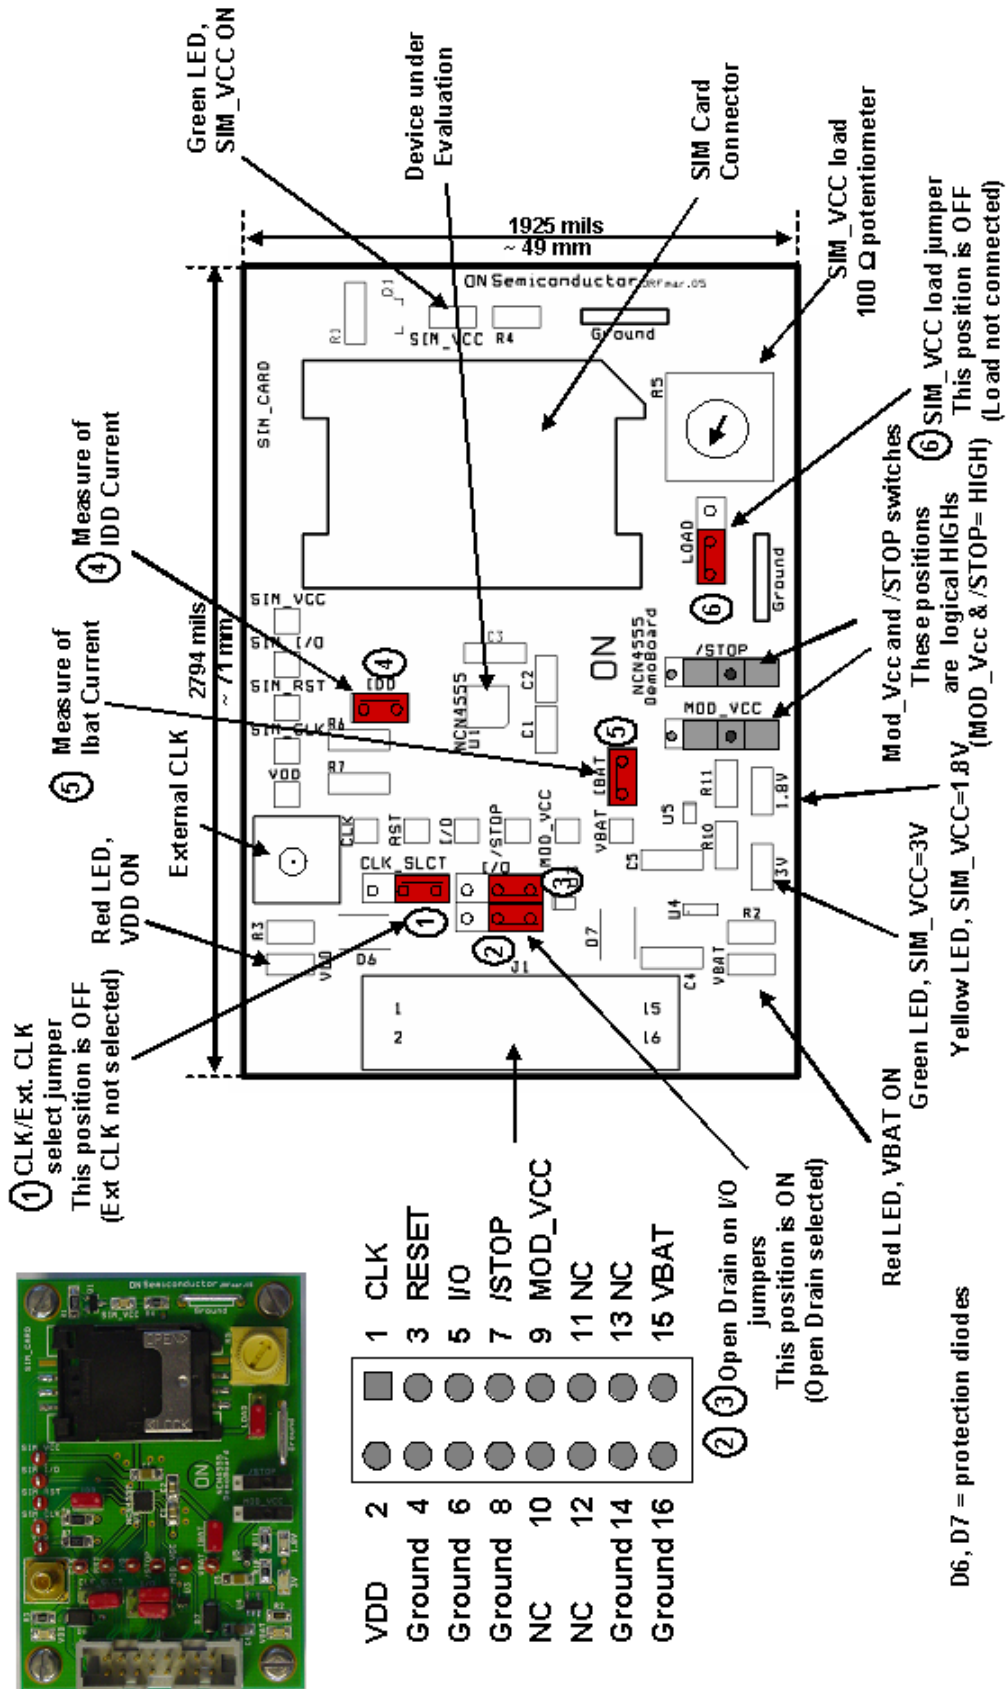

Figure 2. Evaluation Board Details
(See Figure 2, all the positions of the switches given below referred strictly to the logical positions (High or Low) indicated in Figure 2)
### Initial Setups (Figure 2)
- Jumper 1: As shown in Figure 2, internal clock selected (through HE10 connector).
- Jumper 2 and 3: Jumpers in position Off contrarily to Figure 2 where the position is On. The Open Drain will then be unconnected and the I/O signal will be applied directly to the I/O NCN4555 input through the HE10 connector.
- Jumper 4: Plugged like Figure 2.
- Jumper 5: Plugged like Figure 2.
- Jumper 6: As shown in Figure 2, 100  $\Omega$  potentiometer is not connected.
To evaluate SIM\_CLK a clock signal has to be connected either using the external clock input (SMB connector) or through the HE10 connector. The selection is done using the corresponding jumper (see Figure 2). The max clock frequency will be 5.0 MHz, and the signal will have to accommodate the specifications provided in the data sheet.